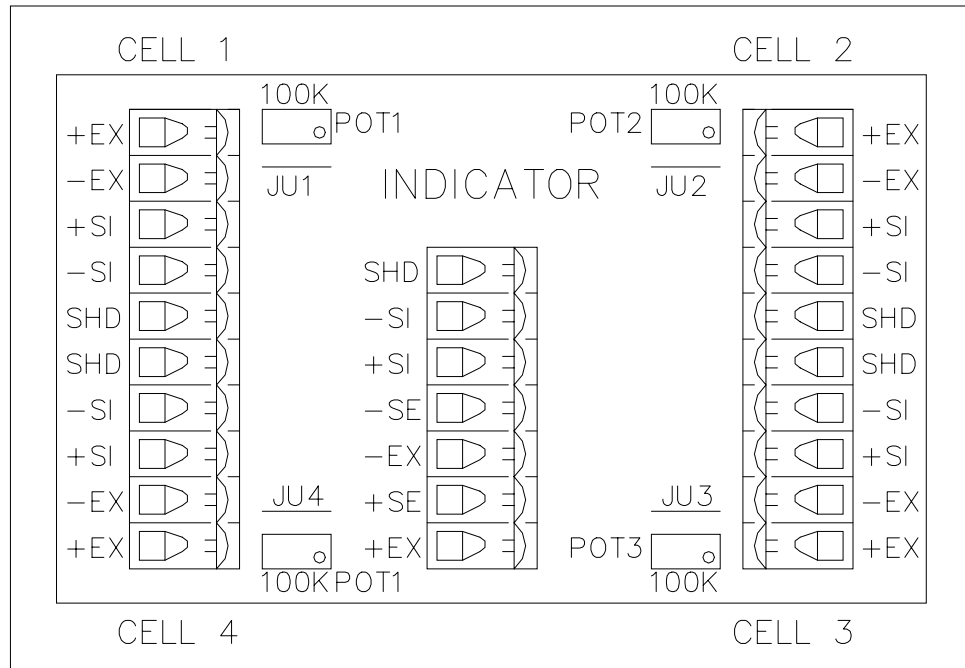

Figure 3-10: Wiring Load Discs to Junction Box
See Figure 3-10. The summing stainless steel junction box accommodates up to eight Load Discs. Follow this procedure:
1. Thread the Load Disc cable through the desired conduit fitting. (See Figure 3-10).